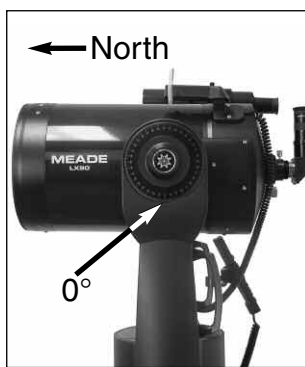

Fig. 13: Alt/Az Home Position.
3. Set the telescope in the home position (**Fig. 13**):
IMPORTANT NOTE: The accuracy of One-Star Alt/Az Alignment, unlike the Two-Star and Easy (Alt/Az) Alignment procedures, depends on how well the observer levels the telescope and how close to North the telescope is pointed when setting the Home Position (**Fig. 13**). Because the other methods use two stars to align upon, they are more precise than One-Star Alignment.